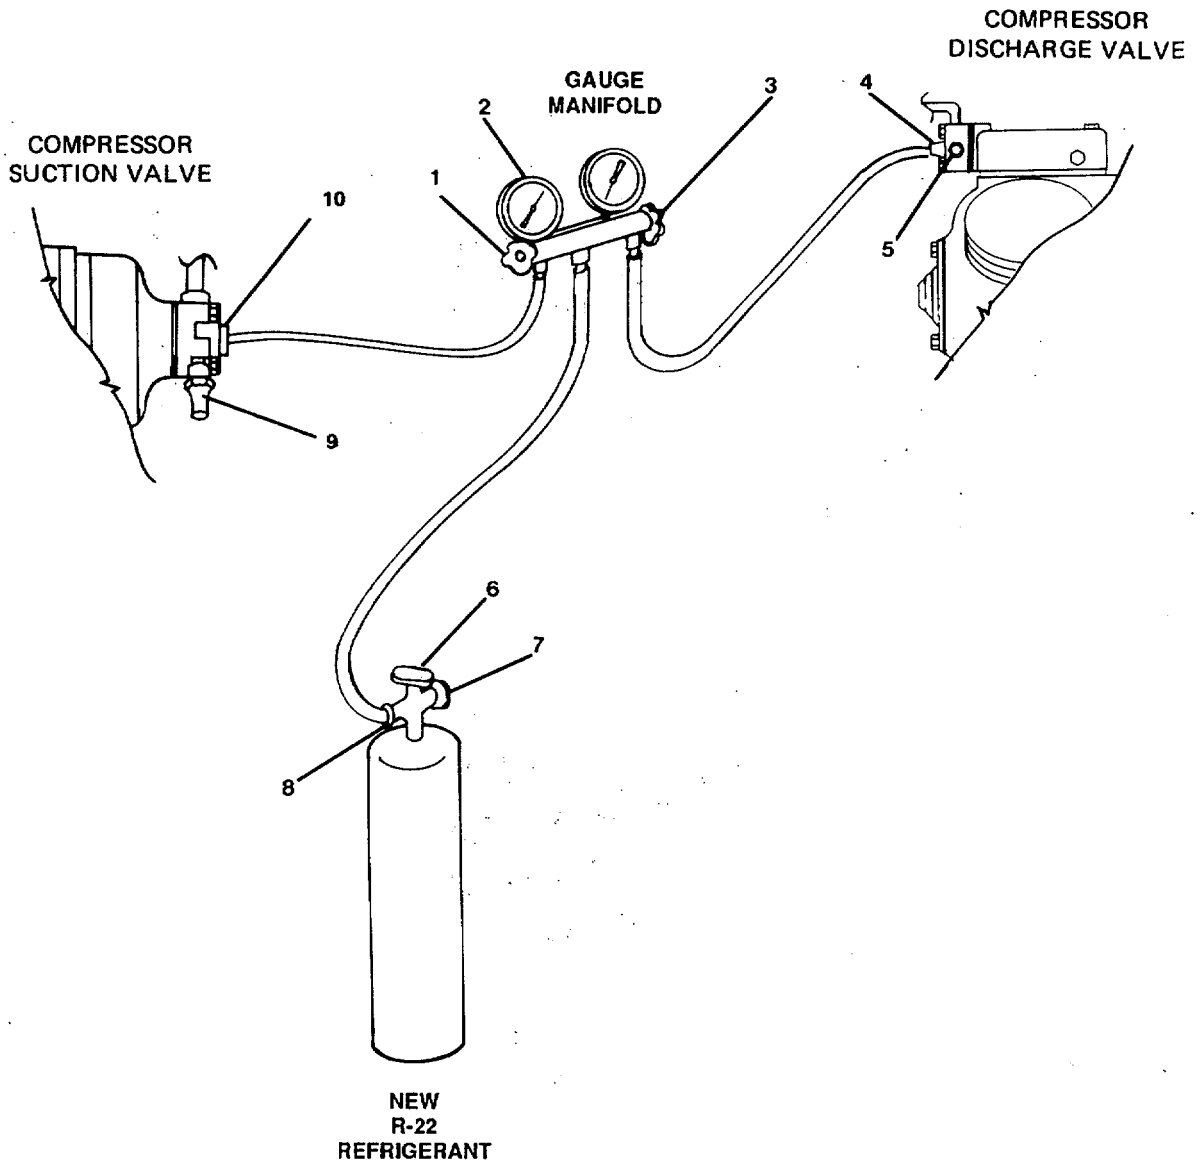

FIGURE 4-24. Adding Refrigerant to Compressor.
- (11) Connect the common hoseline on the gauge manifold to valve connection (8, FIGURE 4-24) on a R-22 refrigerant container (7).
- (12) Purge hoselines.
- (13) Open gauge port handwheels (1) and (3) counterclockwise one-half to one turn.
- (14) Slowly open the valve (6) on the refrigerant container (7). A hissing sound can be heard as refrigerant passes from container to compressor.
- (15) When hissing sound has stopped, close gauge port handwheels (1) and (3) fully clockwise.
- (21) Add additional R-22 refrigerant, by first opening the valve (6, FIGURE 4-24) on refrigerant container (7); then slowly opening gauge port handwheel (1) on the gauge manifold counterclockwise one-half to one turn. When operating pressures are within normal range, close gauge port handwheel.